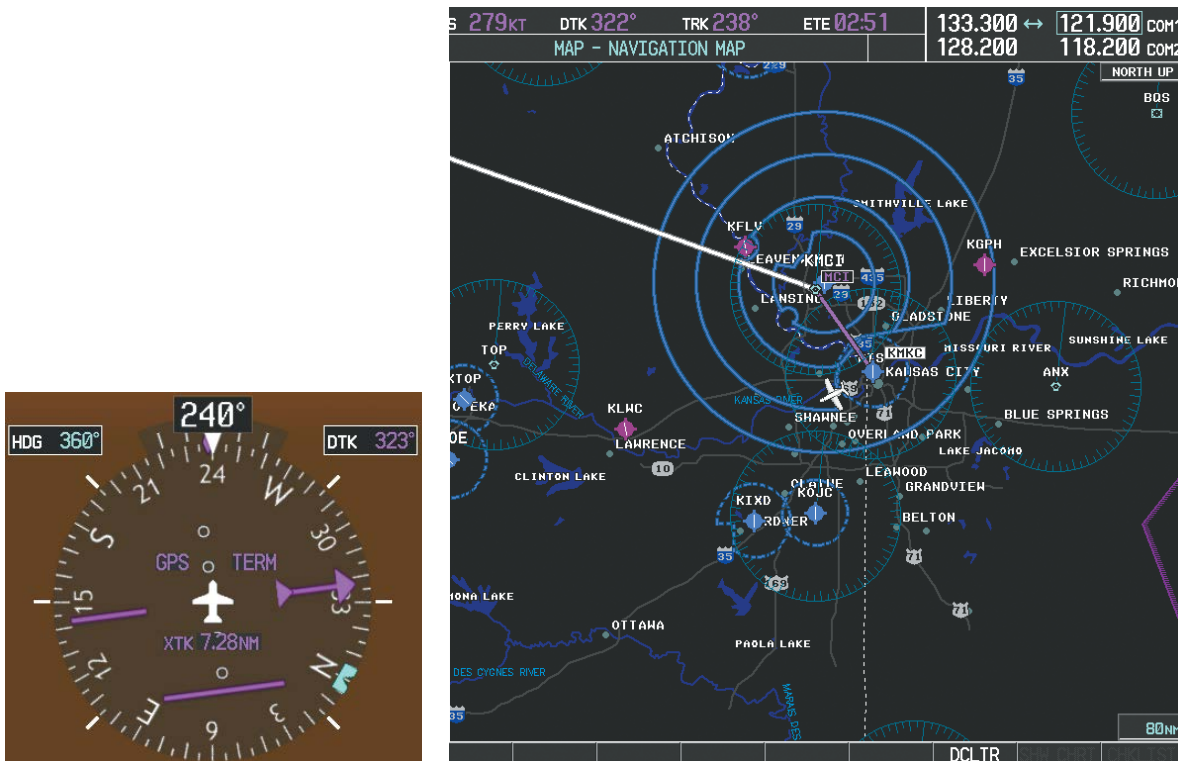

Figure 5-113 Assigned Heading of 240°
- 1) Prior to departure, the TIFTO2 departure, the airways, and the DBRY1 arrival at KCOS are loaded. See the Procedures section for loading departures and arrivals. Note the magenta arrow in Figure 5-113 indicating the active departure leg.
- 2) Figure 5-113 shows the aircraft on the assigned heading of 240°. 'TERM' (Terminal) is the current CDI flight phase displayed on the HSI indicating 1.0 nm CDI scaling.